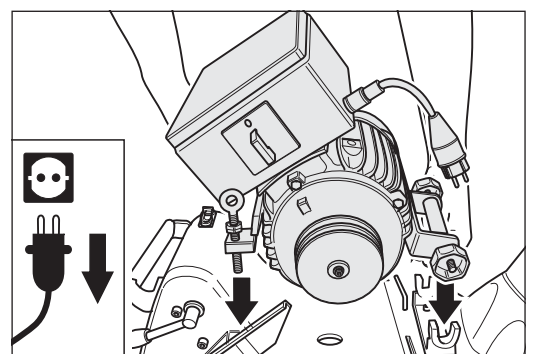

Fig. 32 Put the motor into the motor bearing bracket. **Similar to figure.**
- 4 Place the motor in the motor bearing bracket (Fig. 32).